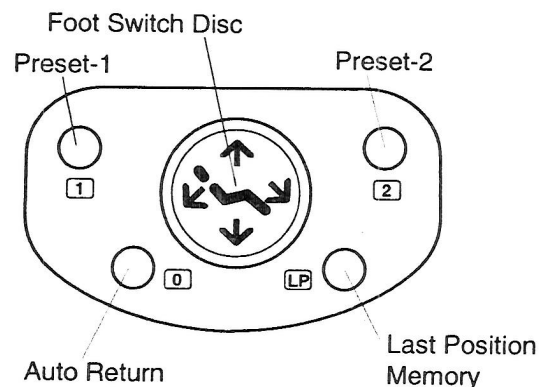

Fig.4-1 Foot Switch
(1) Preset position Adjustment (Fig.4-1)
(2) Mouth Rinsing Position Adjustment (Fig.4-1)